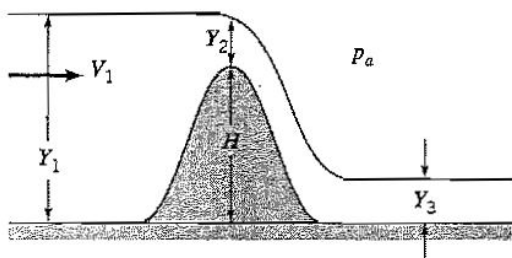

Figure P10.66
10.66 Water in a two-dimensional open channel flows smoothly and steadily over a submerged obstacle of height H and width W as shown in Figure P10.66. The flow over the peak of the obstacle becomes critical at the point where the depth is Y_2 , where $Y_2 = Y_1/3$.